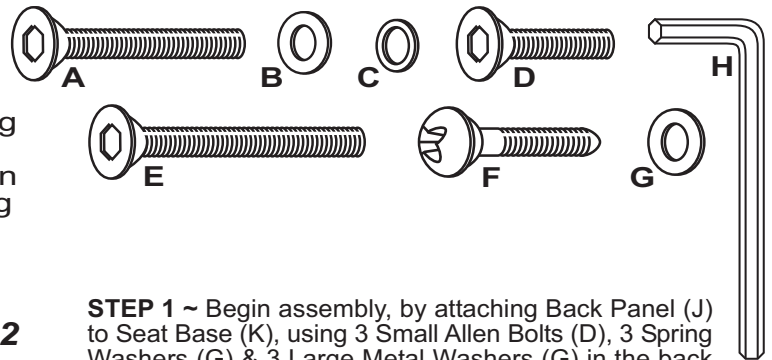

FIGURE 1
STEP 1 ~ Begin assembly, by attaching Back Panel (J) to Seat Base (K), using 3 Small Allen Bolts (D), 3 Spring Washers (G) & 3 Large Metal Washers (G) in the back where there are 3 metal plates welded under seat base. Also, use 2 Long Allen Bolts (E), 2 Spring Washers (C) & 2 Large Metal Washers (G) from the inside of the seat base. Tighten all bolts. See Figure 1.
STEP 2 ~ Next, attach both Leg Panels (L) by crossing them between each other, and attach Top Inner Ring (M) to inside of each panel using 1 Medium Allen Bolt (A), 1 Spring Washer (C) & 1 Small Metal Washer (B) per each leg. Only hand tighten bolts for this step. See Figure 1.